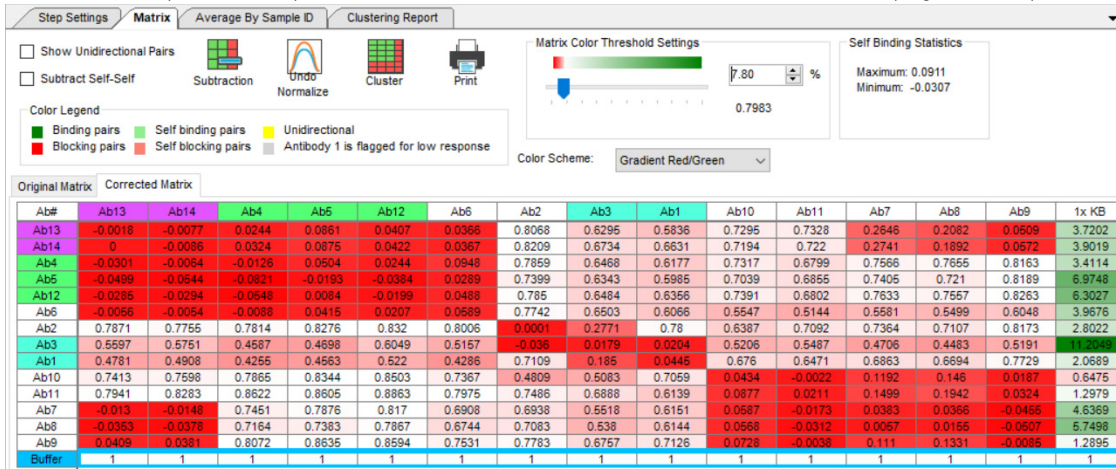

Figure 7-33: Normalized Data
2. Click  (**Normalize**). The data normalize to the row or column selected (Figure 7-33).